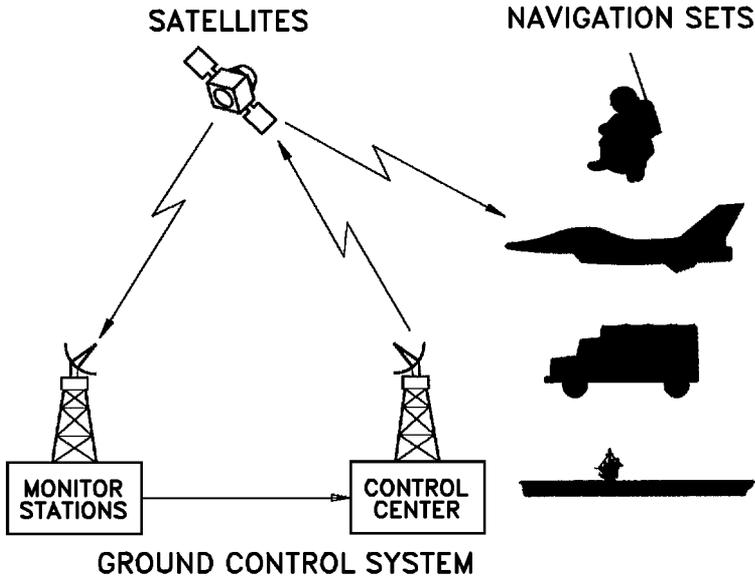

Figure 1-1 NAVSTAR Global Positioning System.
1.1.1 Global Positioning System Structure. Refer to Figure 1-1. GPS consists of Satellites; Ground Control System; and nav sets installed in ships, vehicles, aircraft, and carried by personnel.